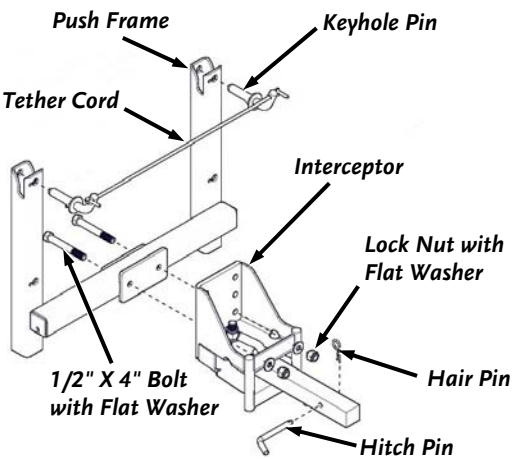

Figure 6
12. Insert interceptor into receiver (leg up) as shown in diagrams. Insert pin through mount and hole in interceptor and lock tab (**Figure 6**).